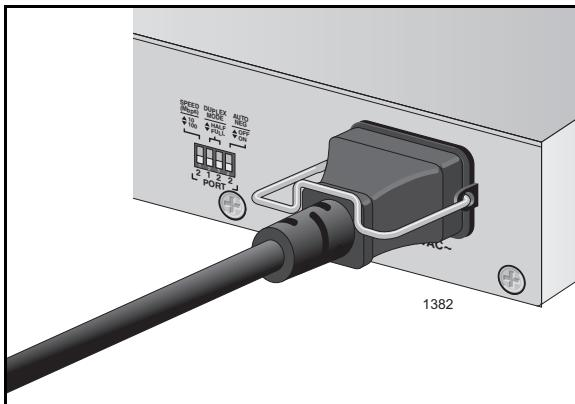

Figure 5 - Securing AC Power Cord with the Retaining Clip
4. For the AT-PC232/POE or the AT-PC2002/POE, install the AC power cord and secure it with the retaining clip provided with the media converter as shown in Figure 5, "Securing AC Power Cord with the Retaining Clip".